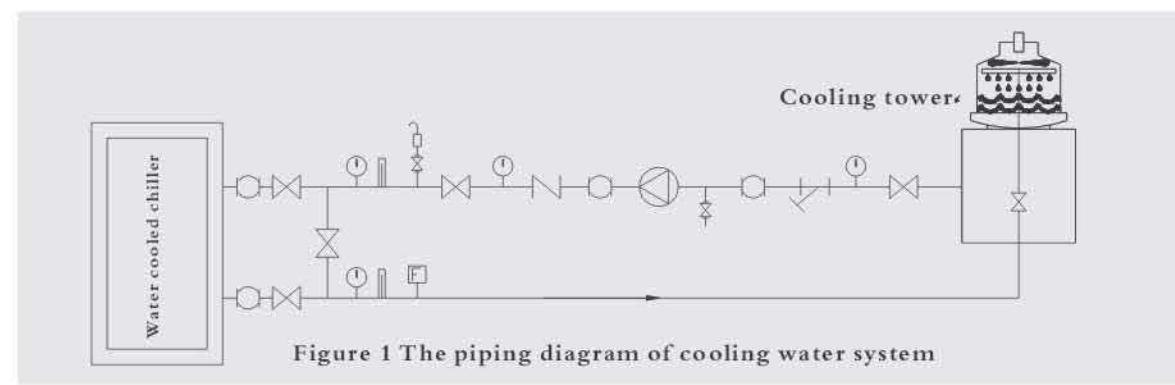

Figure 1 The piping diagram of cooling water system
- 12)The condenser and cooling water pipes are recommended to be installed as shown in Figure 1.